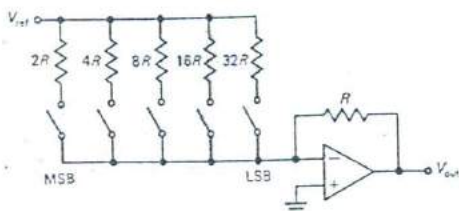

Fig. 13-2 Binary weighted D/A converter.
Figure 13-2 shows the circuit for a 5-bit binary weighted adder. It uses an op amp as an inverting adder. Assume that V_{ref} is -5 V. The output range will be from 0 to almost 5 V. The step size will be
In practice, the switches shown in Fig. 13-2 would be replaced by transistor switches to allow logic signals to be directly applied to the D/A converter. Binary weighted DACs are limited to 5 bits because of the large range of resistor values required. It is very difficult to match resistors with ratios greater than 32:1. Therefore, any attempt to gain resolution by adding more bits will result in a loss of accuracy that negates the extra bits.
4. Refer to Fig. 13-2. What is the output with a -10 -V reference if the two left-most switches are closed and all other switches are open?